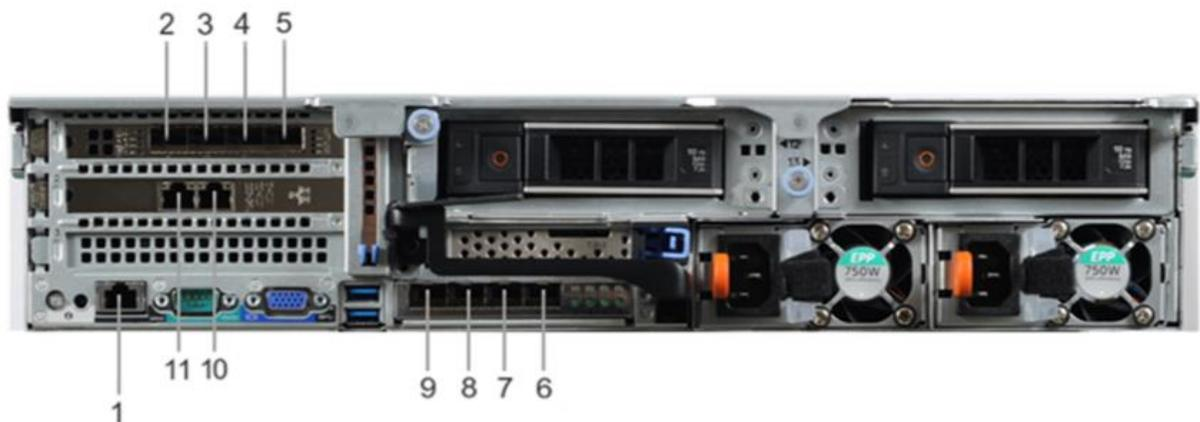

Figure 2 DP4400 network and iDRAC connections
- Verify that the service computer is connected to the 1 GbE port (item 10 in Figure 2).